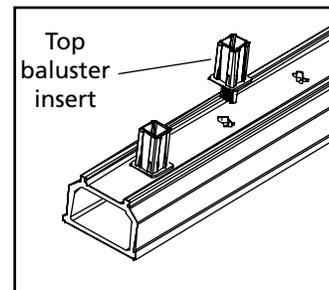

Figure 24
18. Fully engage the top baluster insert (Figure 24) into each